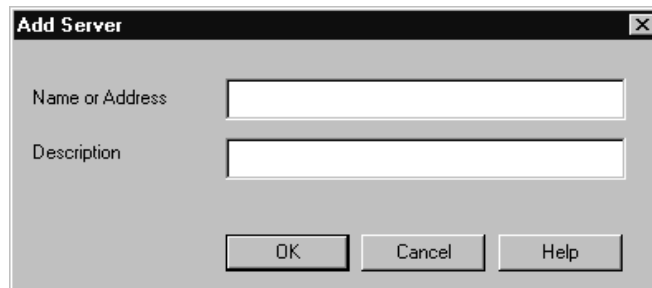

Figure 3-1. Add Server Dialog Box
- 1 Click the  button. The Add Server dialog box appears, as shown in Figure 3-1.